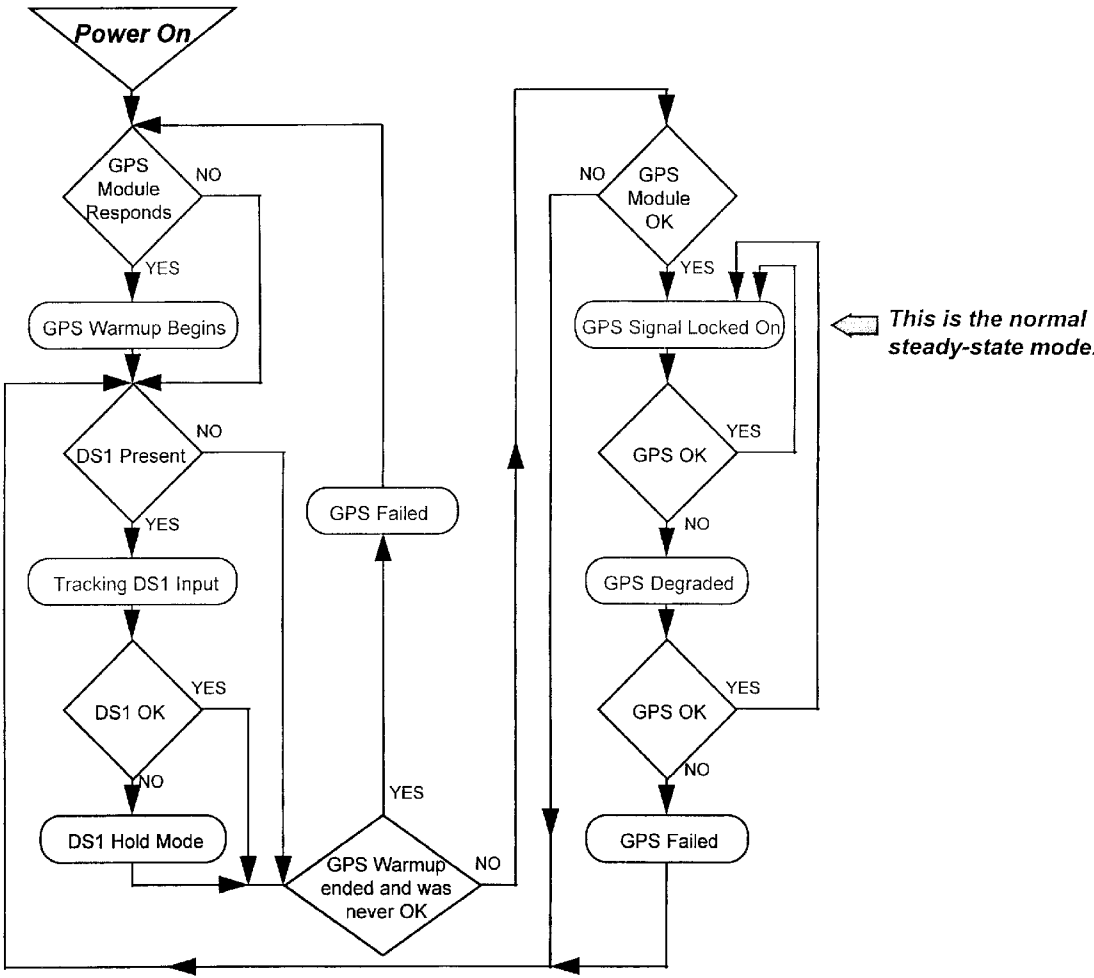

Figure 5-13. Model 5410/5412 Card GPS Mode Algorithm
- a. Accepts one GPS reference signal and provides timing and a smoothed signal to the output cards from a rubidium oscillator tracking a GPS signal. The card also accepts one of two optional 1.544 MHz DS1 signals for a tracking reference if the GPS receiver should fail. Refer to Figure 5-13 for a flow chart tracking the 'health' of the GPS module.
- a. Accepts one GPS reference signal and provides timing and a smoothed signal to the output cards from an ovenized crystal oscillator tracking a GPS signal. The card also accepts one of two optional 1.544 MHz DS1 signals for a tracking reference if the GPS receiver should fail. Refer to Figure 5-13 for a flow chart tracking the 'health' of the GPS module.